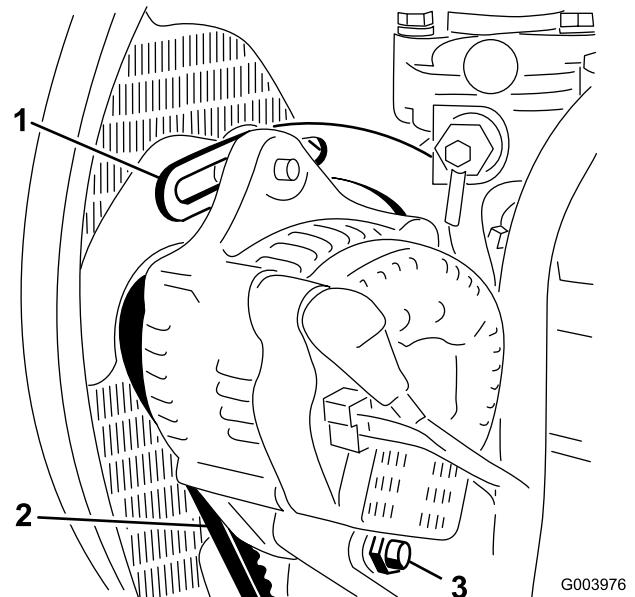

Figure 63
- 3. Loosen the bolt securing the brace to the engine (Figure 63), the bolt securing the alternator to the brace and the pivot bolt.